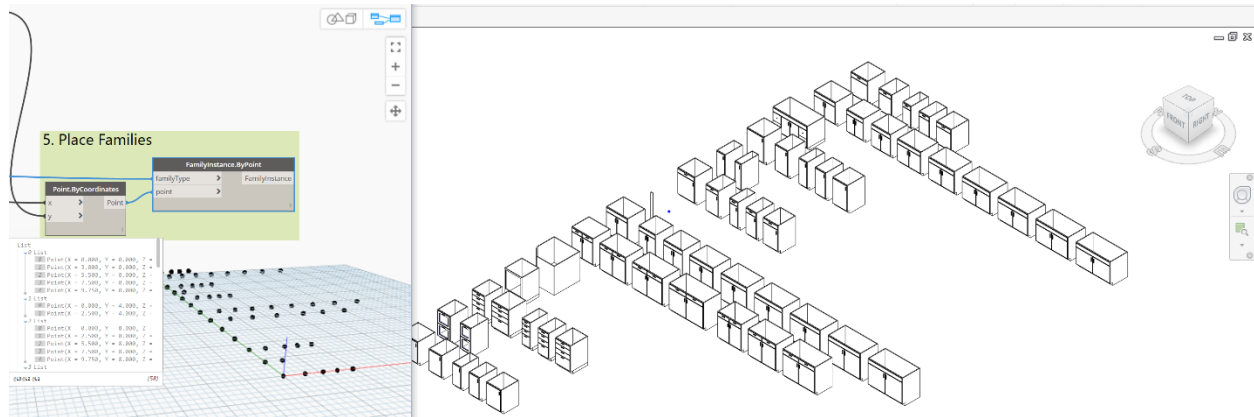

Figure 56
51. Position the Dynamo window such that you can see the Revit window in the background and then run the graph (see Figure 56).